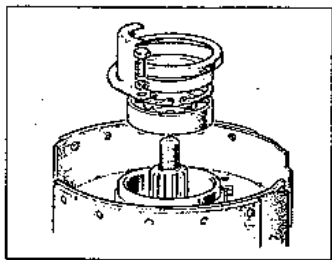

Fig. 6.7 Speedometer drive housing showing the bearing, circlip, oil seal and oil shield (Sec 6)
- 17 Carefully insert the coupling oil seal, with its cavity section inwards, to the point when its plain face is just clear of the chamfer in the housing bore (Fig. 6.7).